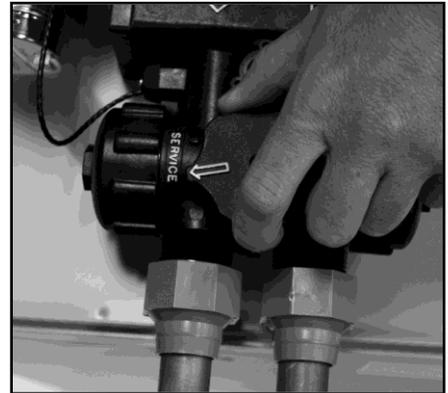

Figure 7: Service Position
6. If your appliance is equipped with a bypass valve, place the appliance in the Service position to slowly fill the media tank. (See Figure 7.)
- A. If your appliance is equipped with a bypass valve, ensure that the appliance is in the Service position. See Figure 7.